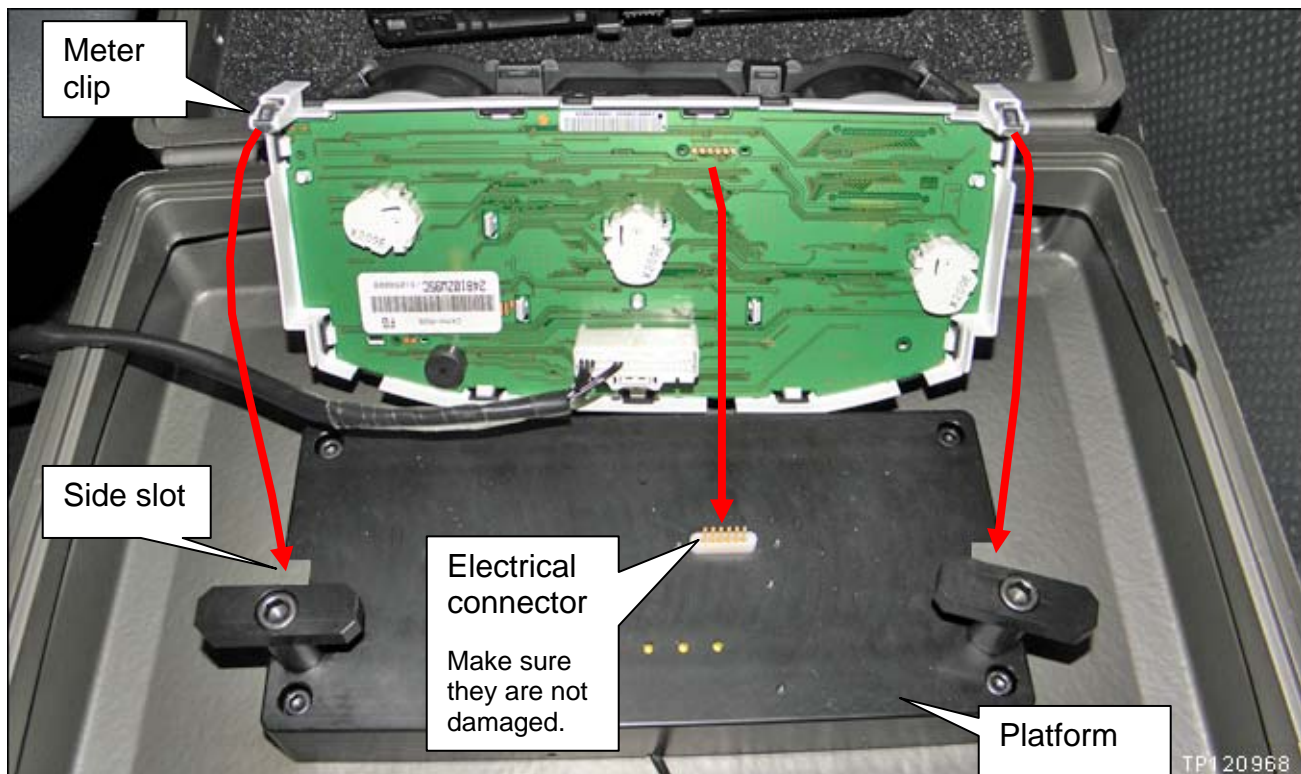

Figure 16
- c. Inspect the electrical contacts on the Reprogramming Tool. Make sure they are not damaged (see Figure 16).
- d. Secure the combination meter on the Reprogramming Tool platform (see Figures 16 and 17).